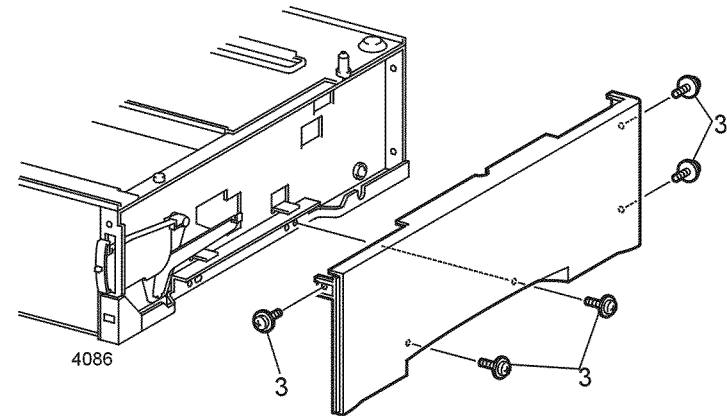

Figure 1 Right Cover
3. Remove the five screws that secure the Right Cover (Figure 1). Remove the cover.